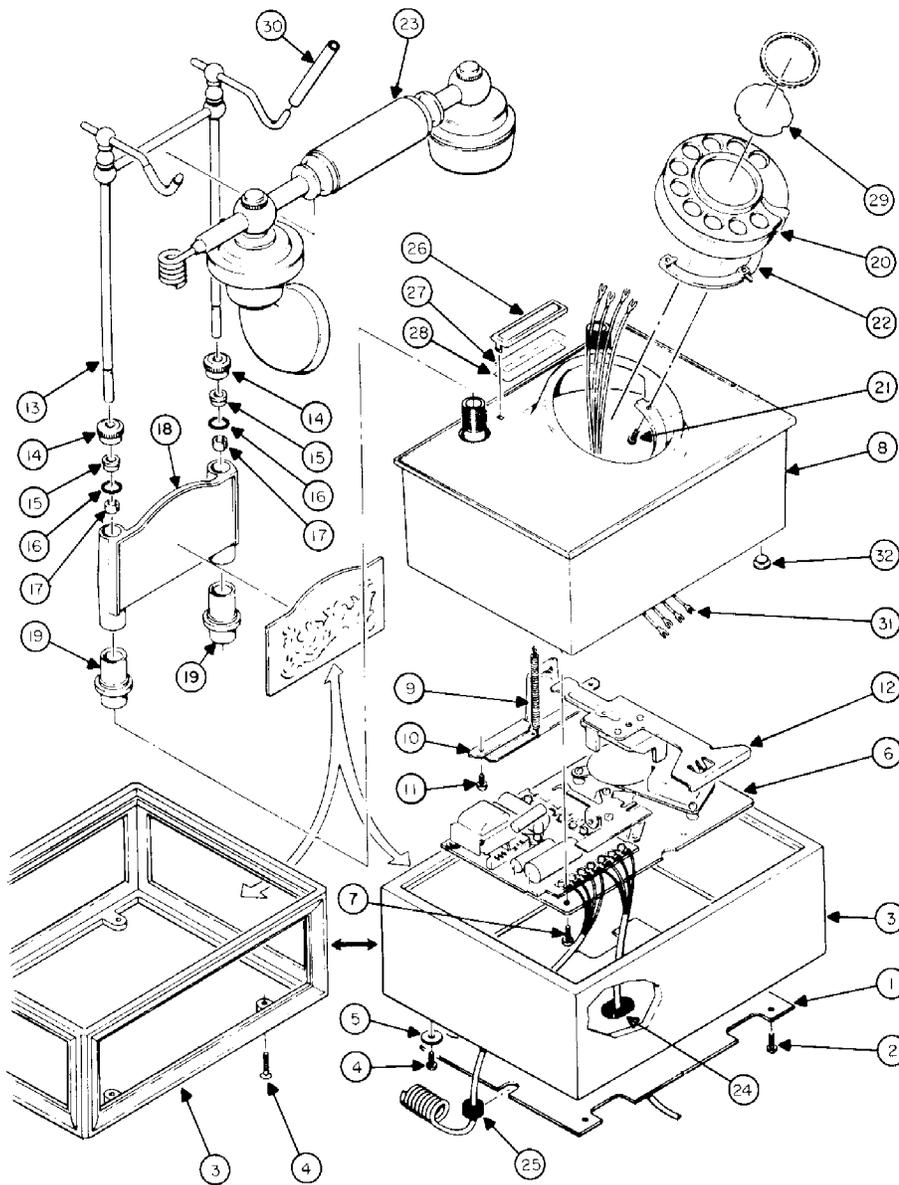

Figure 1. Cradlephone.
2.04 The hookswitch actuator is disassembled as shown in Figure 1 as follows:
- (a) Remove the coil spring (9).
- (b) Remove the actuator spreader (10) by removing the two screws (11) and slipping it loose from the actuator assembly (12) by moving it to the left and down.
- (c) Remove the actuator assembly (12) from the base by unsnapping it from the ribs in the base.
- (e) Loosen the two nuts (14) and lift out the hanger assembly (13).
3.01 Assemble the handset (23, Figure 1) as follows (Figure 3 and Table 3):
- (a) Assemble the upper transmitter shell (13) to the transmitter tube assembly (14) with the pal nut (12).
- (b) Assemble the receiver shell (15) to the receiver tube assembly (16) using the pal nut (17) or the washer (19) and two screws (18).
- (c) Place plastic tubing over the long white (receiver) leads of the handset cord (1).
- (e) Insert the WHT leads through the transmitter tube assembly, handle (22), and receiver tube (16). Push the wires down through the "view-port".
- (f) Insert and tighten the cord retaining screw (10).
- (g) Assemble the receiver tube assembly, handle, and transmitter tube assembly; and secure with the screw (21).
- (h) If necessary assemble the gaskets (23 and 24) into transmitter cap (4) and receiver cap (2), respectively.
- (i) Complete the receiver end by connecting the white leads to the receiver (3), inserting cotton into the cord entry cavity, and screwing on the receiver cap (2).
- (j) Assemble the lower transmitter shell (6) to the horn (11) with the pal nut (12).
3.07 For the remainder of the assembly procedure, use Figure 1 and Table 1. Place the dial spacer (22) and the dial
(20) into the base and dial plate assembly (8) and secure with the three screws (21). The connections are made as part of the final assembly (paragraph 3.09).
3.08 Assemble the hookswitch actuator assembly as follows (Figure 1):